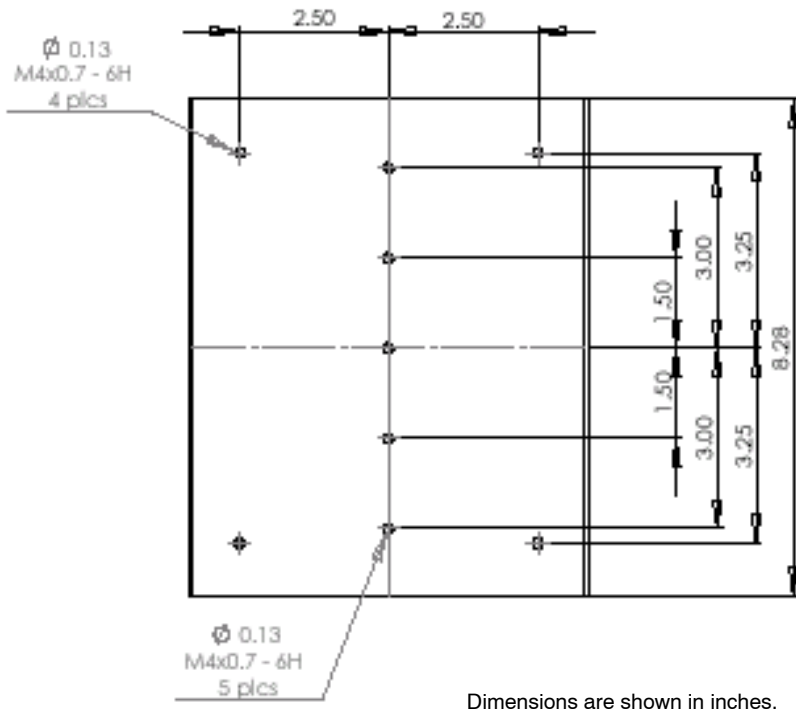

Figure 9. VA4x Mounting Holes
The VA4x provides the means to mount to a standard DIN rail or custom assembly. The mounting holes are located on the base plate of the unit. Location and size of the mounting holes are shown in Figure 9.
1. Mount the Camera(s) and VA4x in a location free from excessive shock, moisture, and vibration. The VA4x can be used with a standard DIN rail mount. Mounting holes are located on the base plate. See Figure 9 on page 16.